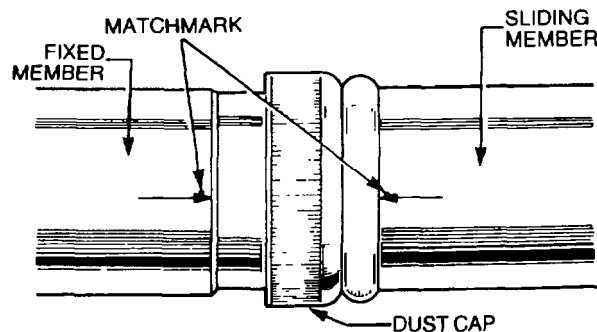

Figure 74 Front Propeller Shaft Matchmark
- g. Insert the sliding member splines into the fixed member ensuring the match marks are aligned (Figure 74).